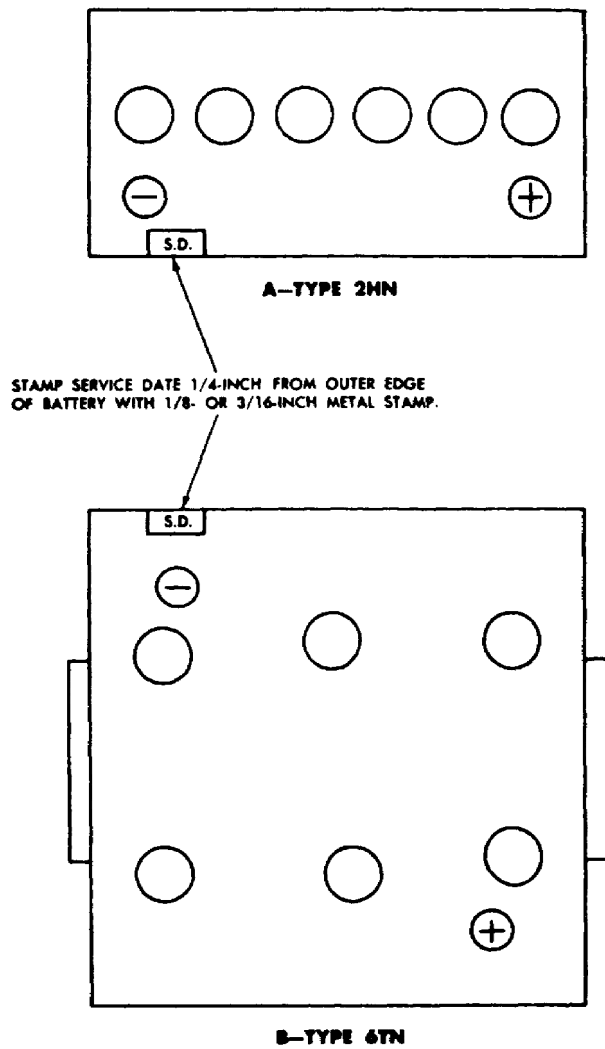

Figure 26. Service date.
(1) The specific gravity of any cell is below 1.250 after the 30-minute stand.
(2) The battery will not be used for 12 hours after filling.
(3) The battery is going into service in temperatures below zero.
e. At the time the battery is prepared for service it must have a service date stamped on it. This is so that its age can be determined at a later date. Stamp the date with 1/8-inch or 3/16-inch metal stamps (fig 26). The date will consist of the letter S followed by the month and year. For example, if the battery was prepared in January 1970, the date will be S-1-70.